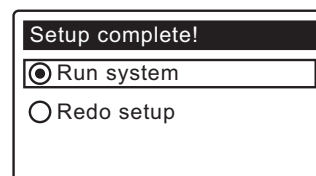

FIG. 19
12. Press the SELECT (O) button. The screen will show "Setup complete!" (See Figure 19).
13. If, at this point, you want to go back and make changes, press the DOWN (▼) button to scroll to **Redo setup**, then press the SELECT (O) button twice to repeat the "wizard" screens.
14. If no changes are desired, make sure **Run system** has a black dot next to it (See Figure 19) and press the SELECT (O) button. The unit begins normal operation, described on the next page.